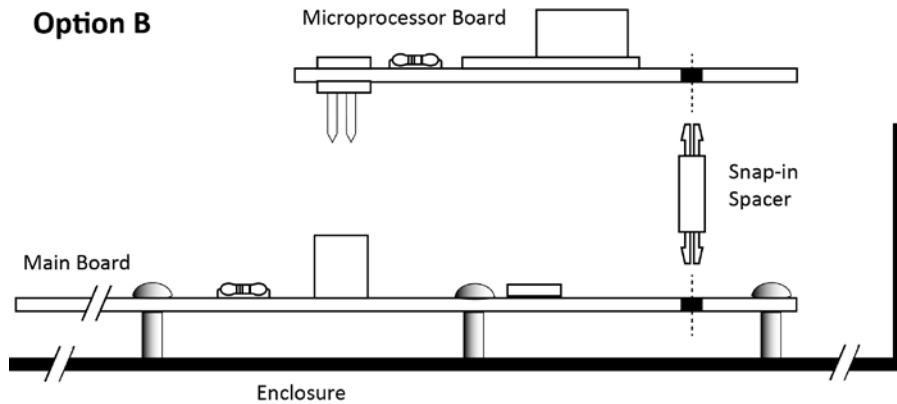

**Figure 3. Option A Installation**
- b. Attach the threaded standoff to the top of main board by routing one of the screws up through the underside of the main board and securing it to the standoff. Use Figure 3 as a guide.